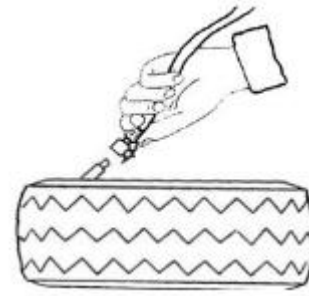

Fig. 16
- 5) Inflating the tyre intermittently, check the pressure of gas meter, and check the wheel rim is positioning, if not positioning, continue the process above, it needs to take special steps when inflating the convex rim; (Fig. 16)